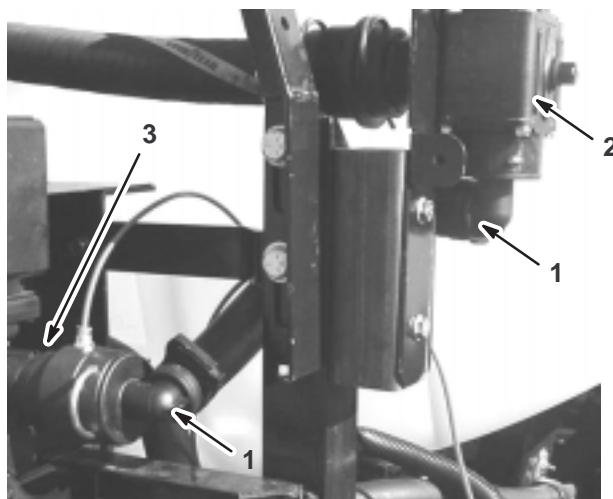

Figure 10
4. Install the short hose assembly to the bottom of the control valve and to the boom supply valves, securing it with one previously used retainer and one new retainer (Fig. 10).